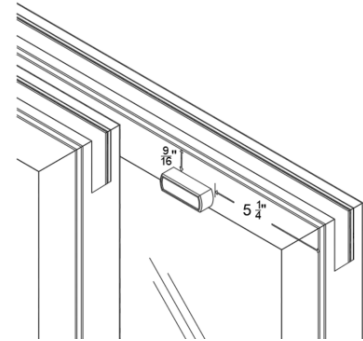

Figure 27
**44.** Pre-drill two 5/32" (0.156") pilot holes on the inside of each operable panel 5-1/4" in from the right side of the panel and 9/16" down from the top of the panel to the edges of the come-along base (Figure 27). Attach the panel come-along (Item 26) using two screws (Item 45). Snap the panel come-along cover over the come-along base.